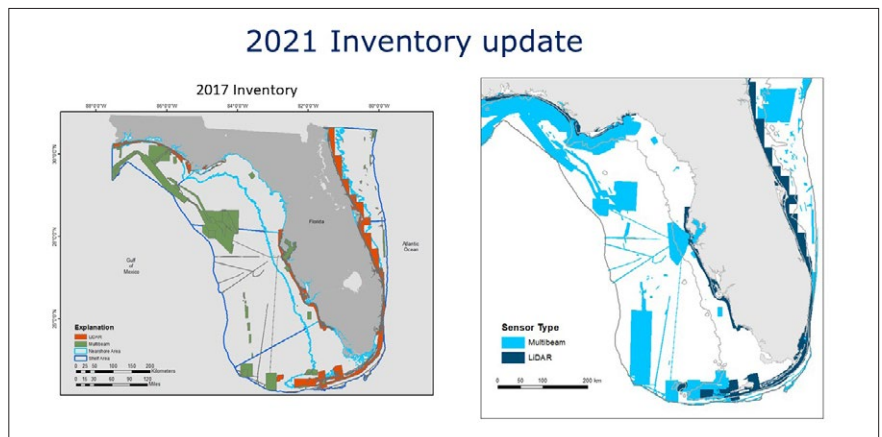

Figure 5: FCMaP update to the available seafloor data for Florida.
**FCMaP:** Dr. Cheryl Hapke (University of South Florida College of Marine Science) described FcMap’s role: it has evolved into a coordinating body of federal, state, and local agencies along with institutions to facilitate the collection and dissemination of coastal seafloor data. Since the original 2019 prioritization study, FcMaP has conducted an updated inventory of seafloor data in 2021 (Figure 5) and is deploying a similar prioritization study of the offshore (20-200 m water depth) areas in 2024.